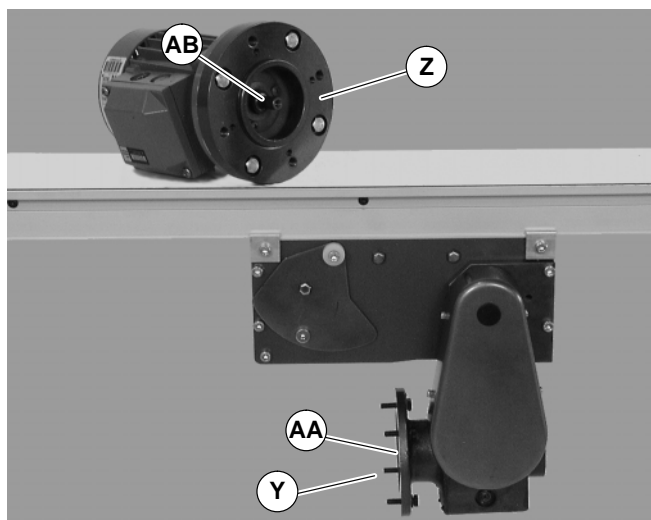

Figure 22
3. Remove four (4) screws (Y of Figure 22). Detach motor with adapter flange (Z) from gear reducer (AA). Retain motor output shaft key (AB).